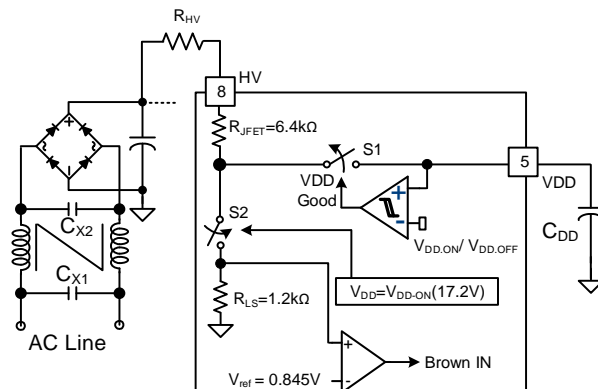
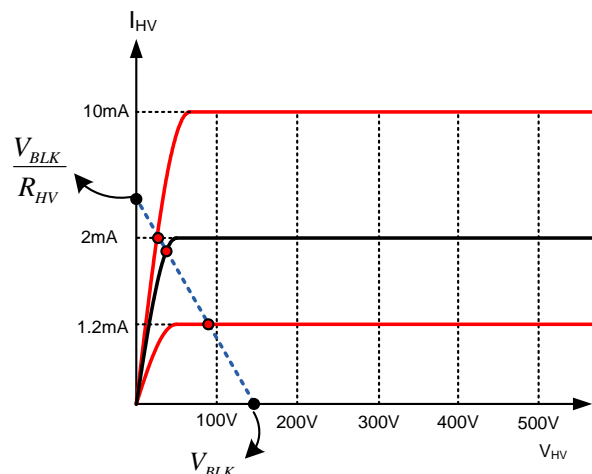

Figure 31 HV Startup Circuit
Figure 32 Characteristics of HV pin
Figure 31 shows the high-voltage (HV) startup circuit. An Internal JFET provides a high voltage current source, whose characteristics are shown in Figure 32. To improve reliability and surge immunity, it is typical to use a  $R_{HV}$  resistor between the HV pin and the bulk capacitor voltage. The actual current flowing into the HV pin at a given bulk capacitor voltage and startup resistor value is determined by the intersection point of characteristics I-V line and the load line as shown in Figure 32.
During startup, the internal startup circuit is enabled and the bulk capacitor voltage supplies the current,  $I_{HV}$ , to charge the hold-up capacitor,  $C_{VDD}$ , through  $R_{HV}$ . When the  $V_{DD}$  voltage reaches  $V_{DD-ON}$ , the sampling circuit shown in Figure 31 is turned on for  $t_{HV-det}$  (100  $\mu$ s) to sample the bulk capacitor voltage. Voltage across  $R_{LS}$  is compared with reference which generates a signal to start switching. If brown-in condition is not detected within this time, switching does not start. Equation 8 can be used to program the brown-in of the system. If line voltage is lower than the programmed brown-in voltage, FAN604 goes in auto-restart mode.